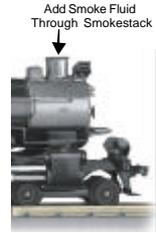

Figure 4. Add Smoke Fluid
1. You should prime the operating smoke unit with smoke fluid before operating. Add 15-20 drops of smoke fluid through the smokestack, then gently blow into the stack to eliminate any air bubbles in the fluid. See Fig. 4 on pg. 10.
- When preparing to run this engine, add 15-20 drops of smoke fluid through the smokestack (see Fig. 4). We recommend M.T.H. ProtoSmoke, Seuthe, LGB, or LVTS fluids (a small pipette of ProtoSmoke fluid is included). Do not overfill the unit or the fluid may leak out and coat the interior engine components.